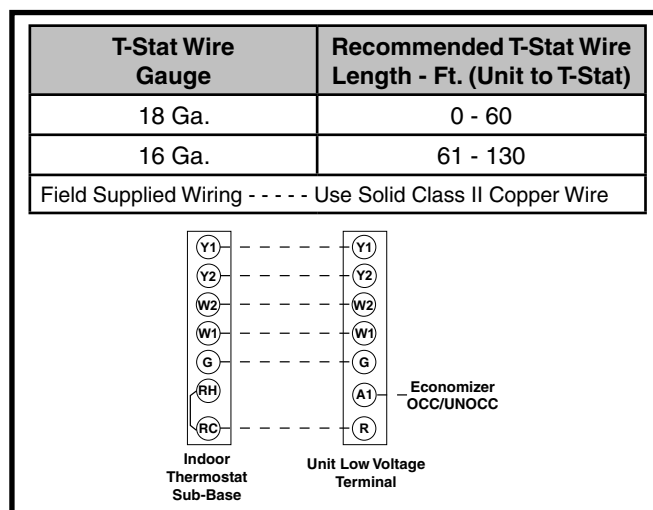

Figure 10. Typical 2 - Stage Heat/Cool Thermostat Connection
- A two-stage heating/cooling thermostat is required for R6GN series units. Select a thermostat which operates in conjunction with the installed accessories. The thermostat should be mounted about 5 feet above the floor on an inside wall. See Figure 10 for proper wire gauge and their recommended lengths for typical thermostat connections.
- The low voltage wires must be properly connected to the unit's low voltage terminal block. Route 24V control wires through the gas furnace side of the unit. Recommended wire gauge and wire lengths for typical thermostat connections are shown in Figure 10.